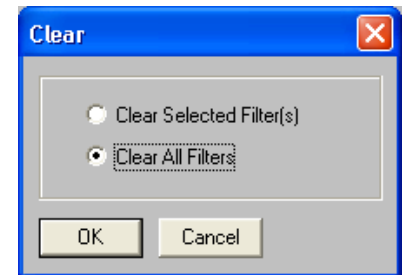

FIGURE 7-14: “Clear” Dialog
2. The “Clear” dialog appears, as in Figure 7-14.